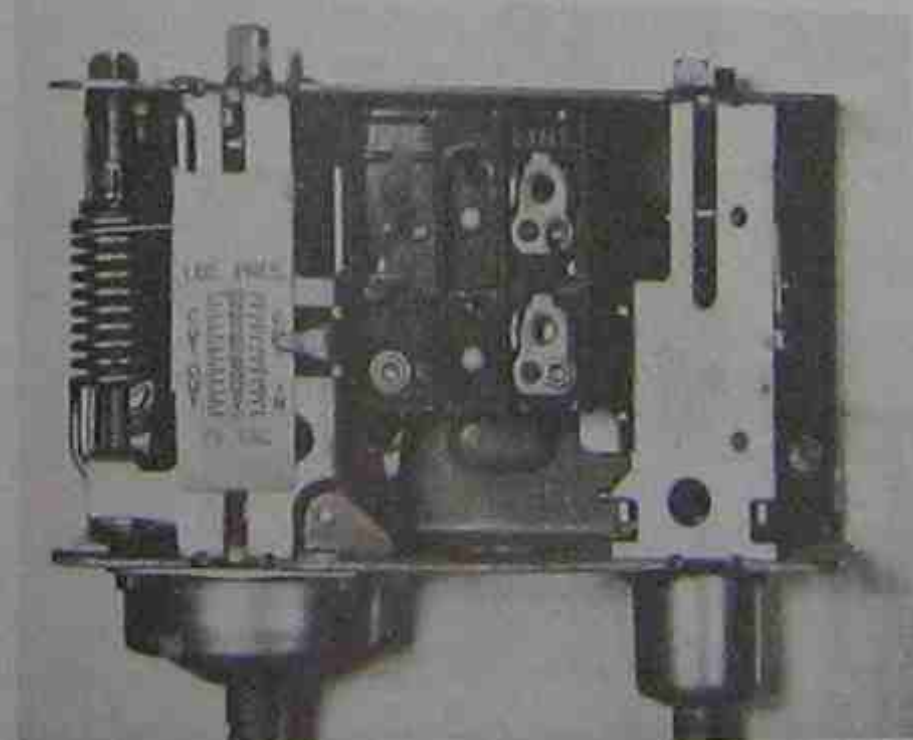

Figure 15-8. The control has two bellows acting on one set of contacts. Either control can stop the compressor. Photo by Bill Johnson
15. Some pressure controls have the high-pressure and the low-pressure controls built into one housing. They are called *dual-pressure controls*, Figure 15-8.